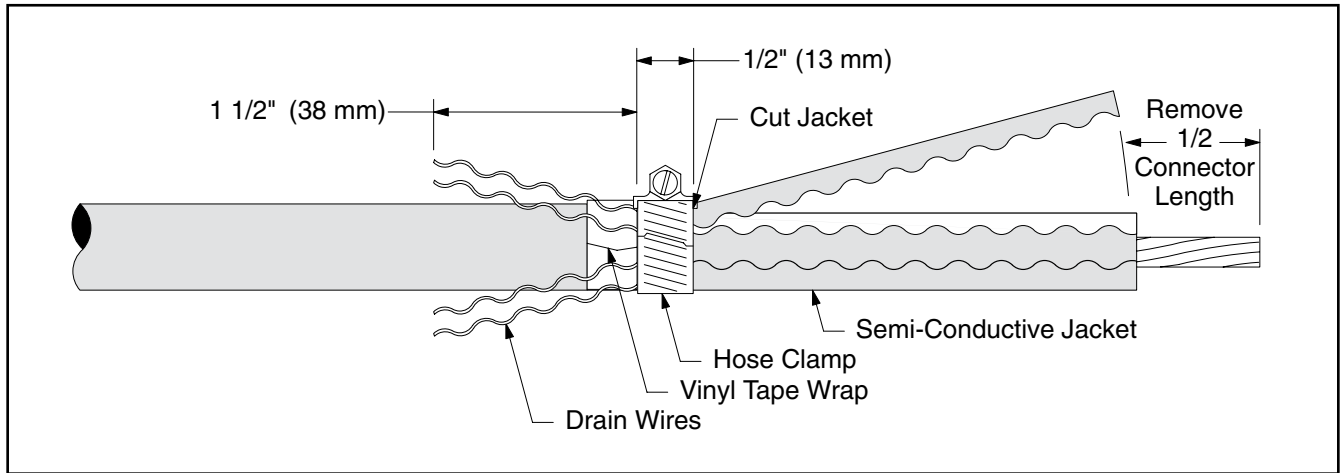

Figure 5
- b. Cut-off shield drain wires to a length of 1 1/2" (38 mm) and fold back onto cable (*Figure 5*).
- c. Install hose clamp and on side of clamp closest to cable end, cut 80% through cable jacket (*Figure 5*).
- d. Remove jacket by pulling against hose clamp. **DO NOT BELL SEMI-CON JACKETS** (*Figure 5*).
- f. Remove cable insulation from cable end for a distance of 1/2 connector length (*Figure 5*).